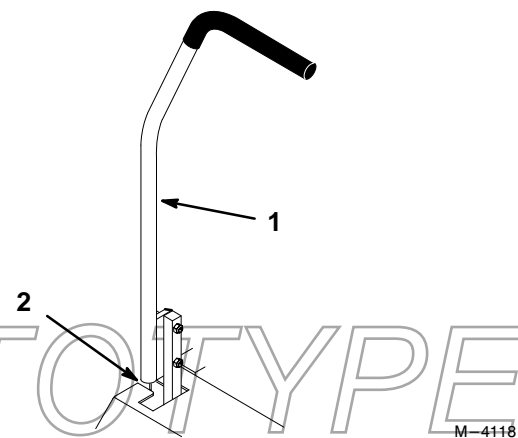

Figure 49
3. Check where lever is relative to notch in console (should be centered allowing lever to pivot outward to the neutral lock position (Fig. 49).